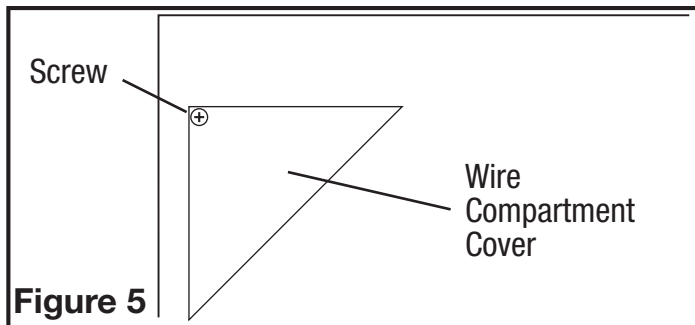

Figure 5
- 1a. **External Wire Compartment:** Remove the wire compartment cover screw and place cover in a secure place (**Figure 5**).